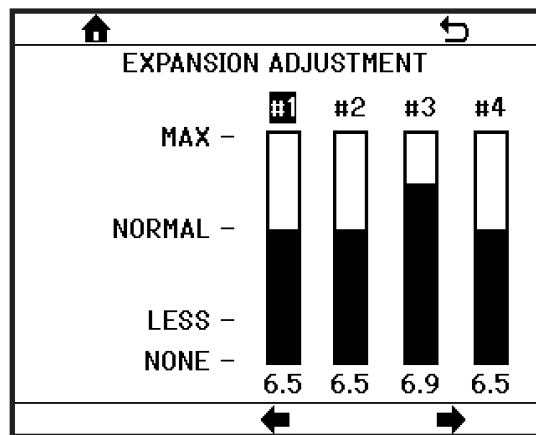

Figure 7.20
- **EXPANSION ADJUSTMENT:** Used to adjust the amount of gas in a drink (Figure 7.20). The range of values is limited based on the configured gas and drink type.
DRINK TYPE CONFIGURATION (Figure 7.20) - Once the gas type has been set under GAS CONFIGURATION, the drink type will need to be configured for universal configurations. Since the type of drink available for any given barrel is dependent on the gas that was selected for the barrel, it is very important to make sure the correct gas is selected. The available drink types will also vary by dispenser configuration as shown in the Universal Configuration Drink Types table.
EXPANSION ADJUSTMENT (Figure 7.20) - The amount of gas in the drink can be adjusted in this menu. The adjustment ranges from “MAX” (high levels of gas, high expansion) to “LESS” (lower levels of gas, low expansion). Select the barrel number and adjust the bar graph up or down.